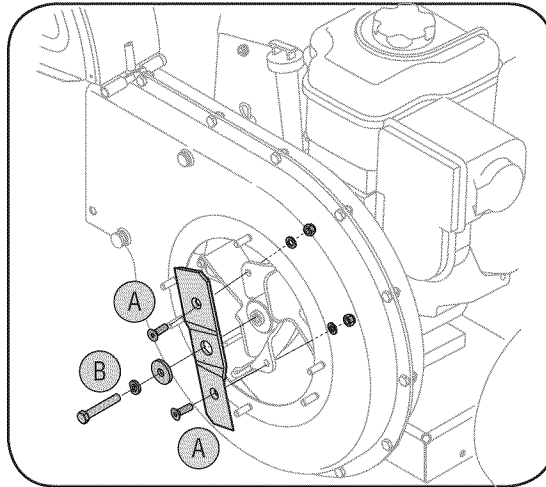

Figure 5-4
- Remove the hex bolt, lock washer, and flat washer to completely free shredder blade. See Figure 5-4.